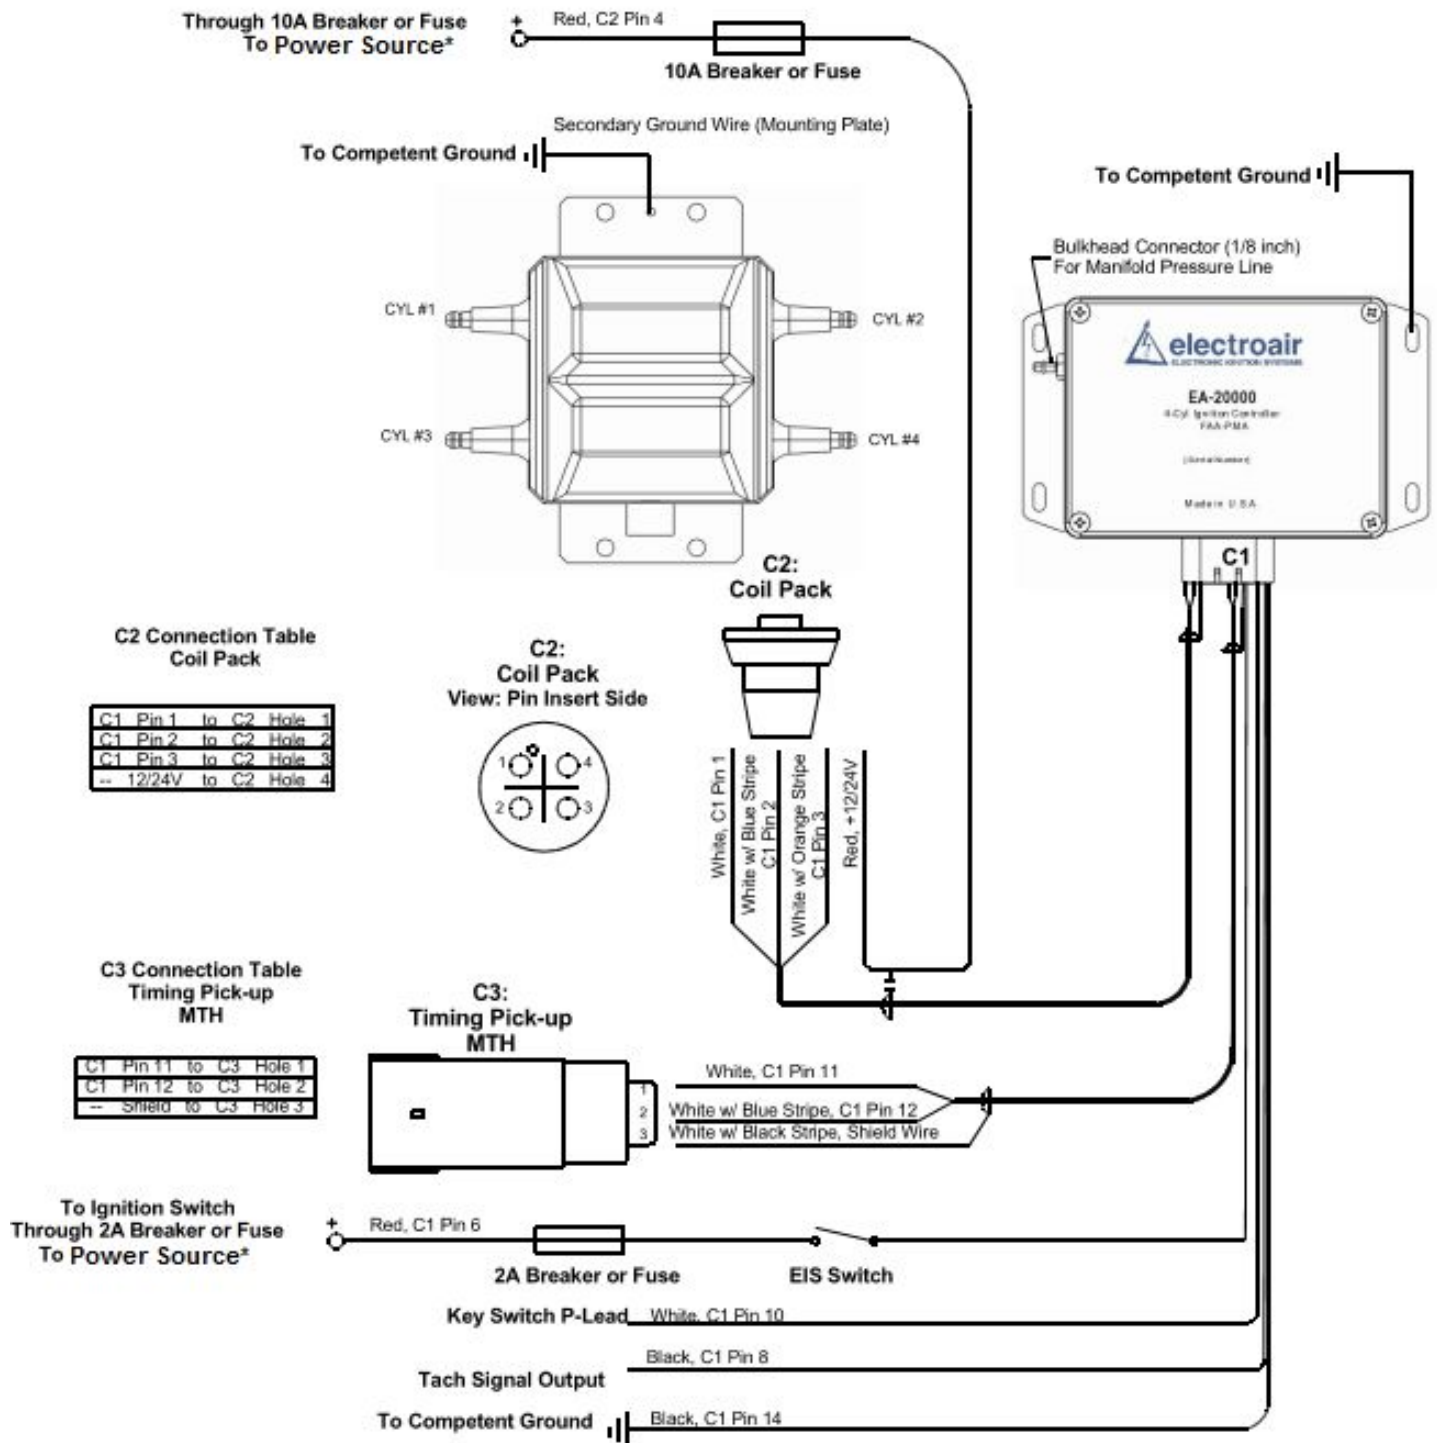

Figure 19: Wiring Diagram for EIS-41000 & EIS-41000IC
- I. Figure 19 shows the Wiring Diagram for the EIS-41000 & EIS-41000IC. Both EIS kits for a Dual EIS installation will have similar wiring. The only difference will be with one of the EIS kits being connected to a different essential bus or backup power source. See Figures 20-22 for power source connection options.